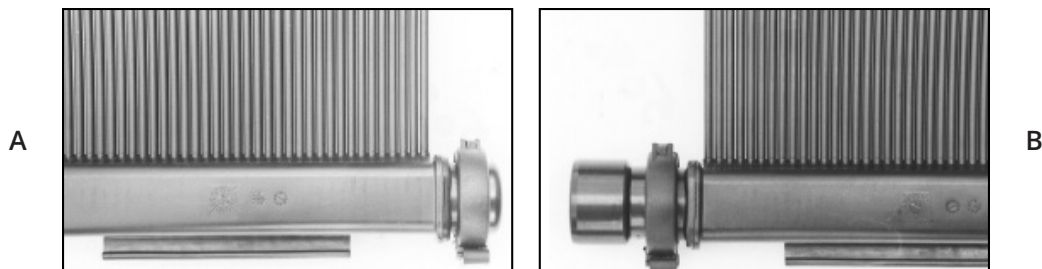

Fig. 11
2. End caps will be located on the unused corners of the collector bank(s). Attach the end caps using the PPC sets as described in the section on **Connecting Collectors Together**. (Fig. 11)
3. Attach the CPVC Pipe Connectors to the corners of the bank where the feed and returns lines will be using the PPC sets. (Fig. 11-B). All four manifold ends should have either an end cap or CPVC Pipe Connector attached.